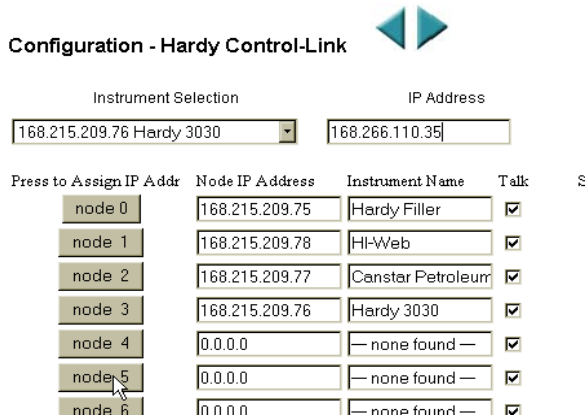

FIG. 256: HARDY CONTROL-LINK PAGE
- If you do not find the IP address of the instrument you going to configure, type the IP address of the instrument in the IP Address text field. In our example we typed “168.266.110.35”. (See Fig. 256)